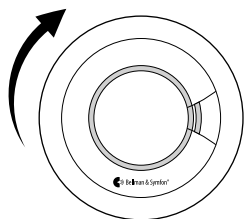

Figure 5
- 6 Carefully line up the alarm on to the mounting bracket, gently press to the base and twist clockwise, see **Figure 5**. Install all the other alarms similarly.